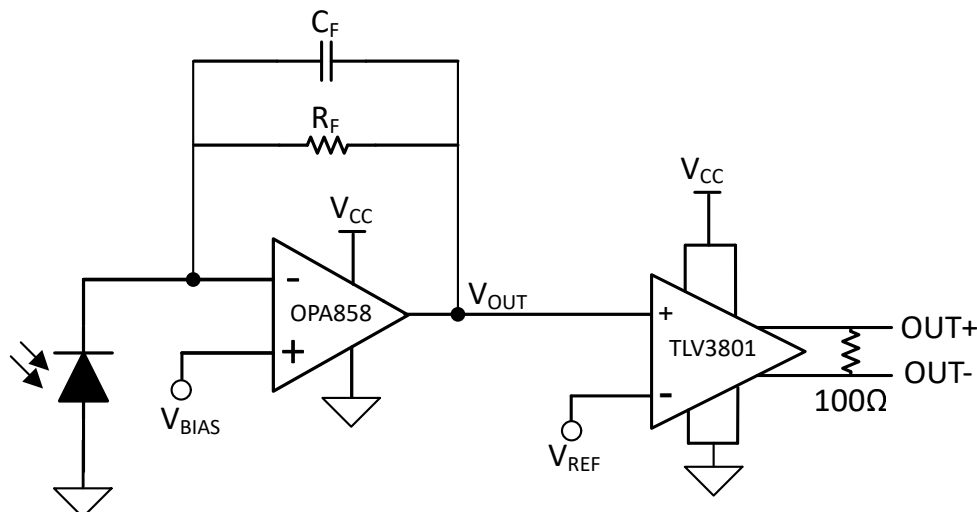

Figure 8-1. Optical Receiver
The TLV3801/TLV3811(C) can be used in conjunction with a high performance amplifier such as the OPA858 to create an optical receiver as shown in the Figure 8-1. The photodiode operates in photoconductive mode: exposure to light will cause a reverse current through the photodiode. A bias voltage is applied to the op amp's non-inverting input to prevent saturation at the negative power supply. The OPA858 takes the current conducting through the diode and translates it into a voltage for a high speed comparator to detect. The TLV3801/TLV3811(C) will then output the proper LVDS signal according to the threshold set (V_{REF}).